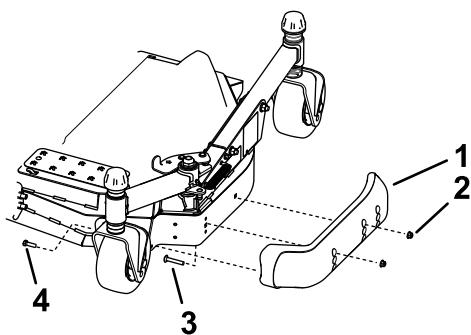

Figure 9
3. Loosen the screw at the front of each skid (Figure 9).
5. Move each skid to the desired position and secure them with the flange-head bolts and nuts (Figure 9).